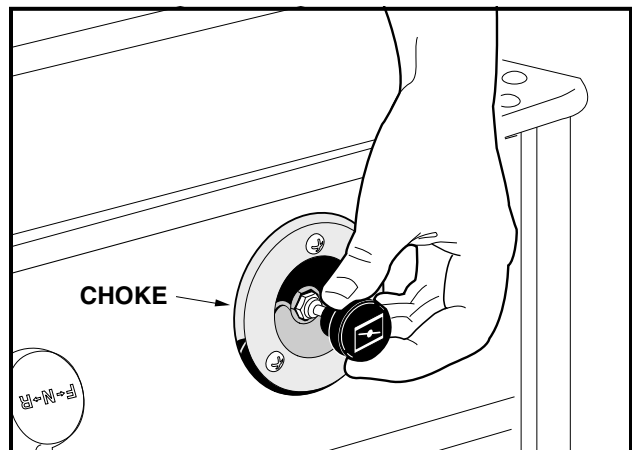

Figure 3-12 Choke Cable
- **Turf 2, Turf 6, Carryall 2, Carryall 6 and Carryall 2 Plus:** Pull out the choke handle to activate the choke. Hold it during start up and release the handle when the engine begins to run smoothly (**Figure 3-12, Page 3-7**).